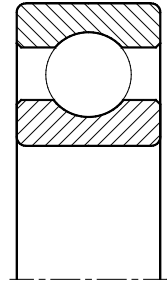

Fig. 2.1
**Single row deep groove ball bearings** (fig. 2.1) are the most commonly used rolling bearings.